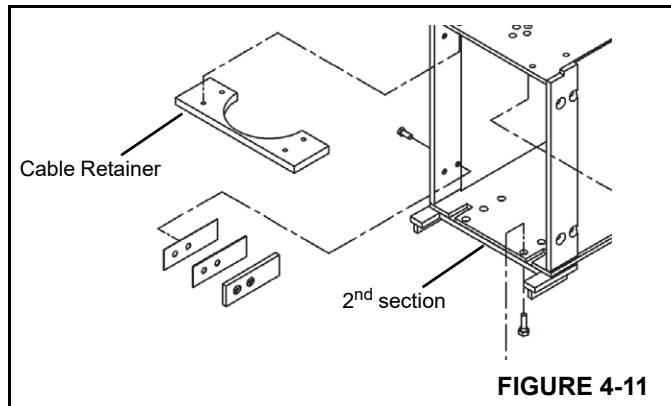

FIGURE 4-11
12. Install the cable retainer to the top plate of the 2nd section (Figure 4-11).